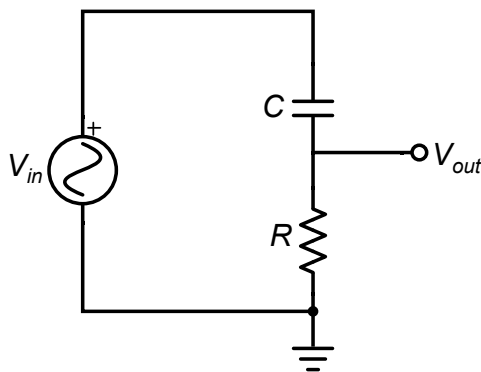

Figure 1 - High-pass filter circuit.
In this portion of the lab, you will construct the RC circuit shown in Figure 1. You will then measure the peak-to-peak output voltage $|V_{out}|$ as a function of the driving frequency f . Copy the circuit diagram and table into your lab notebook.
2. Construct the circuit in Fig. 1 using $R = 1 \text{ k}\Omega$ and $C = 0.047 \text{ }\mu\text{F}$.